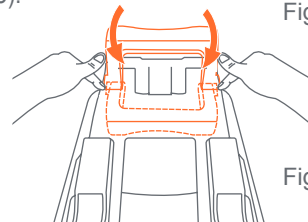

Fig. 54-3
- 2- While holding buttons in rotate elevation foot up into the locked position (Fig. 54-3).